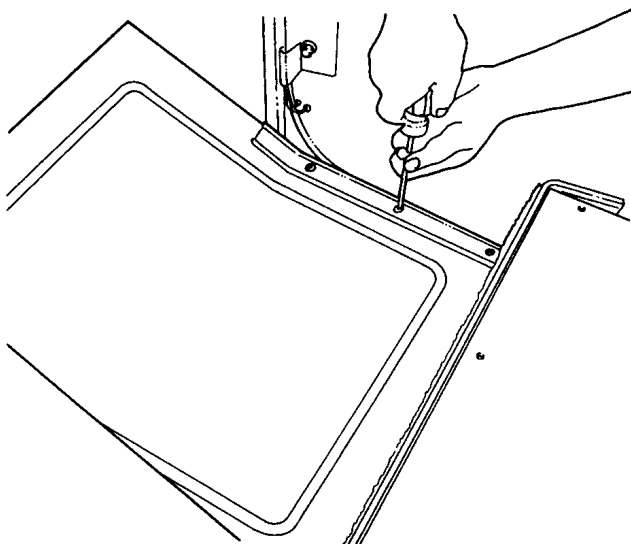

Figure 57 Floor Mat Remove/Install
3. Remove floor mat (Figure 57).
10. Install floor mat using mounting hardware previously removed (Figure 57).